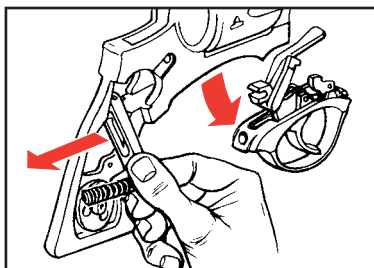

Figure 8
6. Pull trigger guard latch to the rear (using mainspring lever) and simultaneously pull trigger guard assembly, intact, out from bottom of frame (See Figure 8).